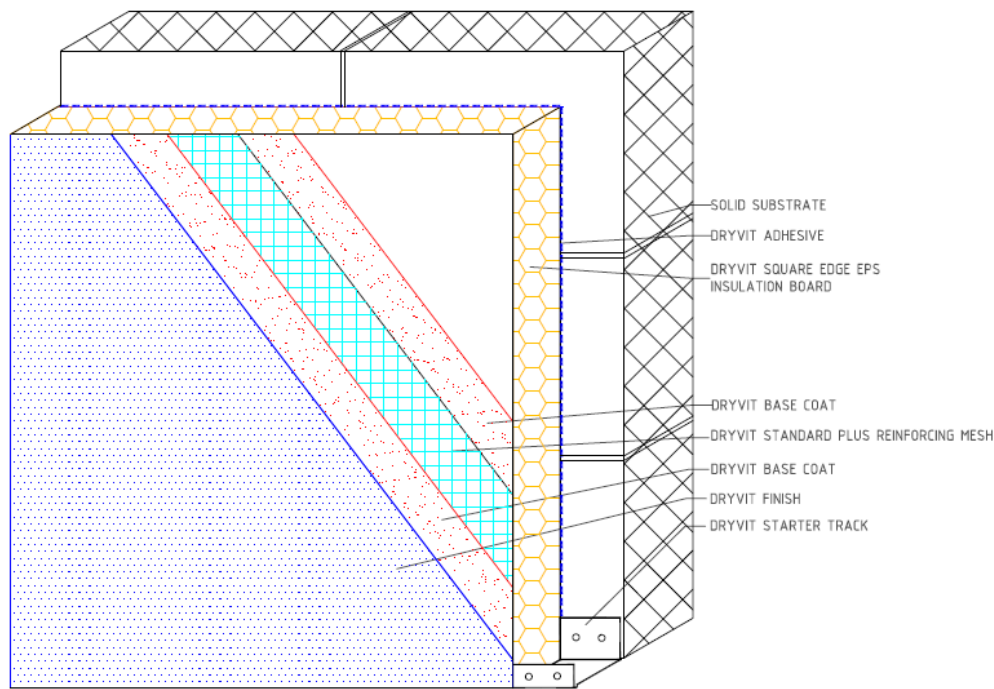

Figure 3a: Outsulation primary cementitious adhesive fix
- h. Apply a further 0.5 to 1.5 mm layer of base coat over the first coat to fully cover the reinforcing mesh (see Figure 3a). The result should be such that the reinforcing mesh is approximately centred within the base coat thickness. Do not allow the first pass to completely dry prior to the application of the second pass otherwise an excessive amount of base coat mixture will be necessary to fully coat the surface.